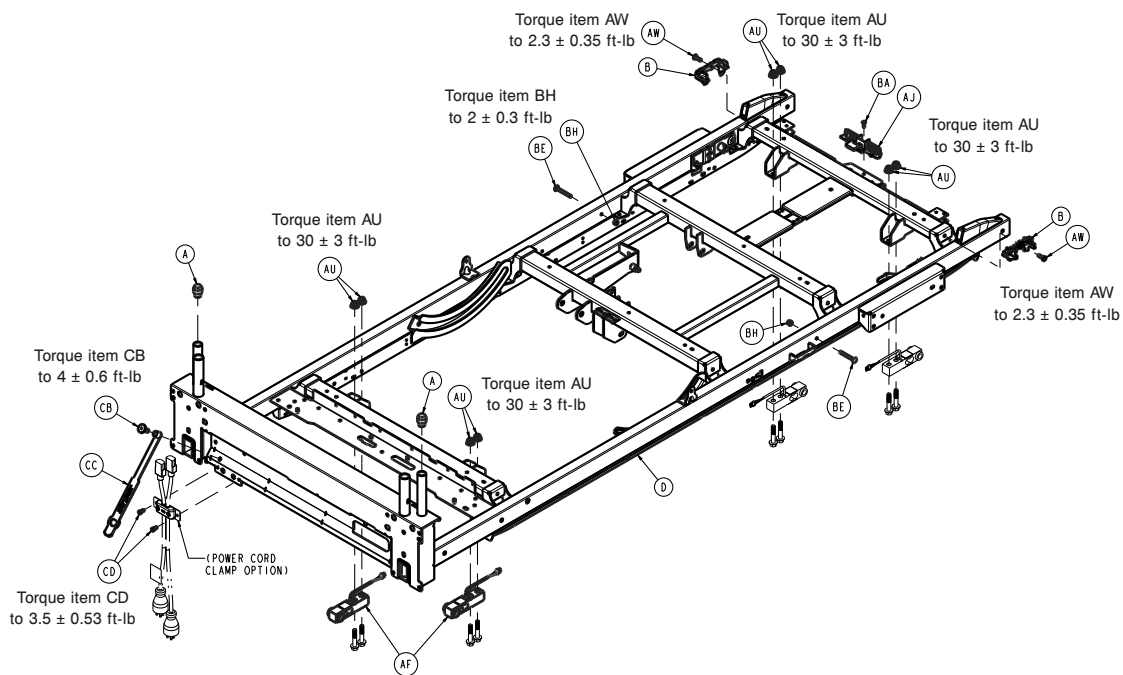

Figure 29 – Replacing the load cell
7. Unplug the load cell (AF) (Figure 29).